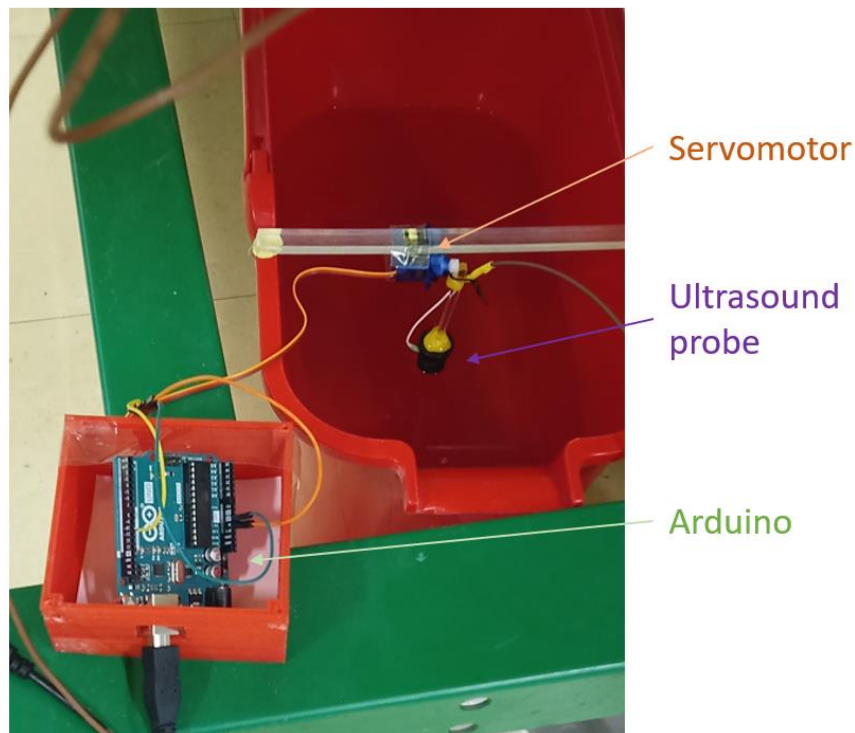

Figure 2 – Ultrasound Probe into water
- Put the ultrasonic probe perpendicular to surface of water as shown in figure 2.